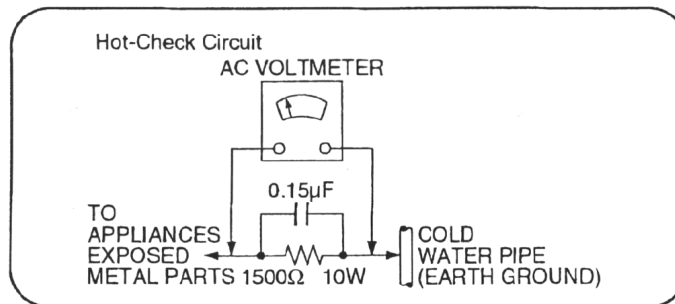

Figure 1
1.1.2. Leakage Current Hot Check (See Figure 1)
2. Connect a 1.5kΩ, 10 watts resistor, in parallel with a 0.15μF capacitors, between each exposed metallic part on the set and a good earth ground such as a water pipe, as shown in Figure 1.